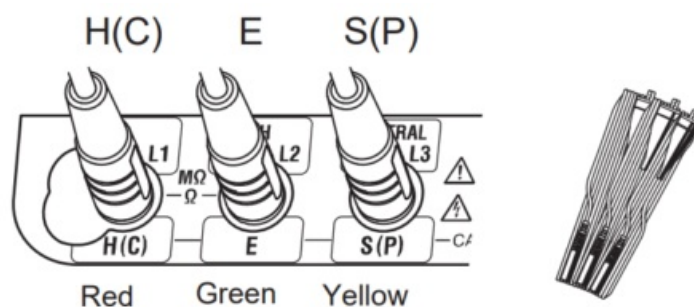
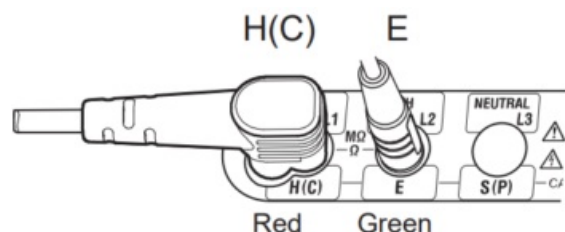

Fig. 11-4 Precision measurement (3W method)
Fig. 11-5 Simplified measurement (2W method)
3. Connect the test leads to the instrument illustrated below. (Fig. 11-4, Fig. 11-5)